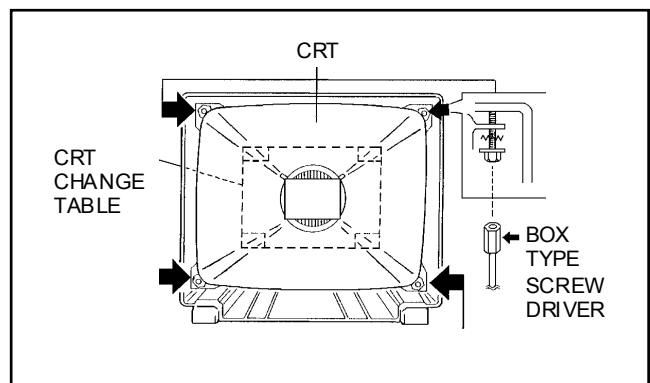

Fig. 9
2. While keeping the surface of CRT down, mount the TV set on the CRT change table balanced will as shown in Fig.9.
3. Remove 4 screws marked by arrows with a box type screw driver as shown in Fig.9.